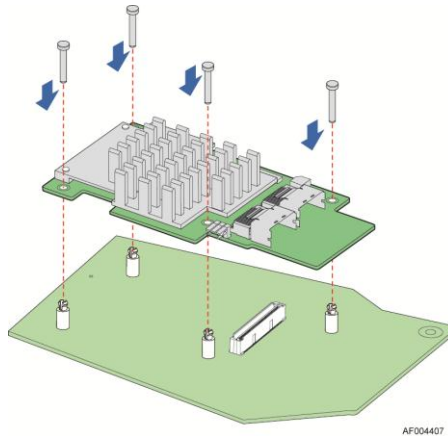

Figure 8. Installing the Intel® Integrated RAID Module
2. Attach the RAID to the matching server board connector, and press the module card firmly to engage the barrel standoffs installed in step 1. Press down gently but firmly to ensure that the card is properly seated in the connectors, and then insert the four pin standoffs into the barrel standoffs respectively. The Intel® RAID Module RM25PB080 is shown for illustrative purpose (see Figure 8).